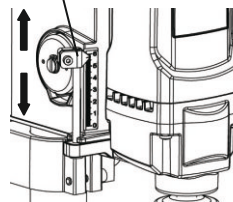

Fig. 5
1. Loosen the Pointer Fixing Screw (39).
2. Lower the Operating Handle (84) until the drill bit makes direct contact with the workpiece.
3. Adjust the height of the Pointer (40) to align with your desired stroke mark on the scale (Refer to Fig. 5).